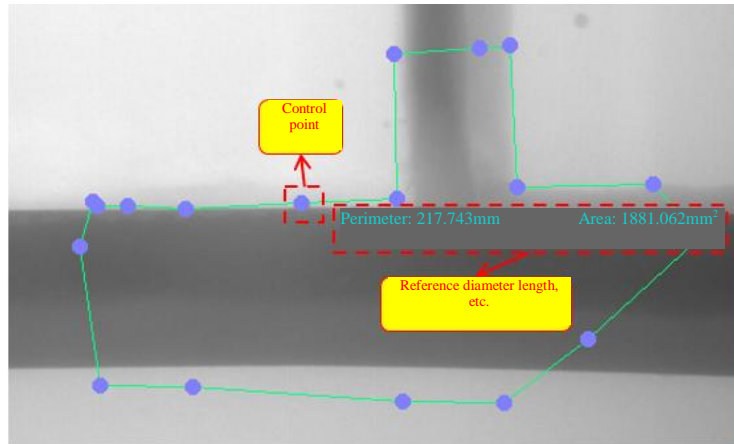

Fig. V-48 Polygonal Measurement Mark
1) Click the toolbar icon  or "Tool (T)" ->"Measurement" ->"Polygon" in the menu bar to enter measurement.
2) Move the mouse to the area to be measured and marked, and add multiple control points at the edge of this position in turn (click the left mouse button to add one control point each time). Line segments are connected automatically between the control points. After the added control points surround the target area, double-click the left mouse button at the last control point to add a polygon surrounding the target area. (Fig. V-48).